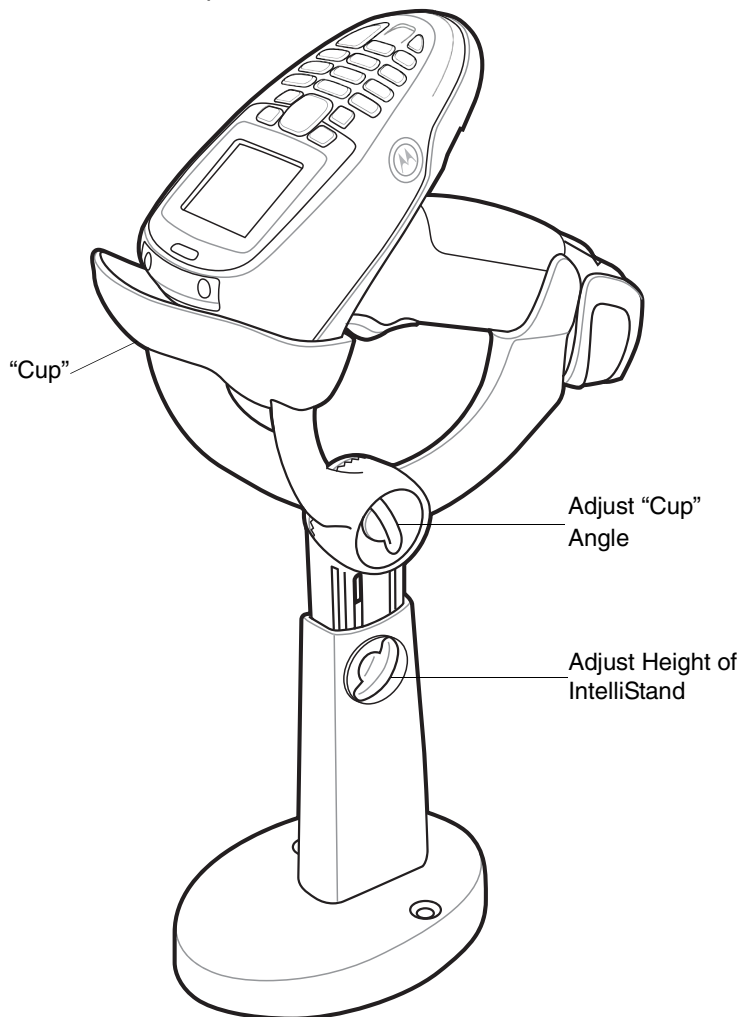

Figure 3-6 *Inserting the Device in the IntelliStand*
2. Insert the device in the IntelliStand by placing the front of the device into the stand's "cup" (see Figure 3-6).